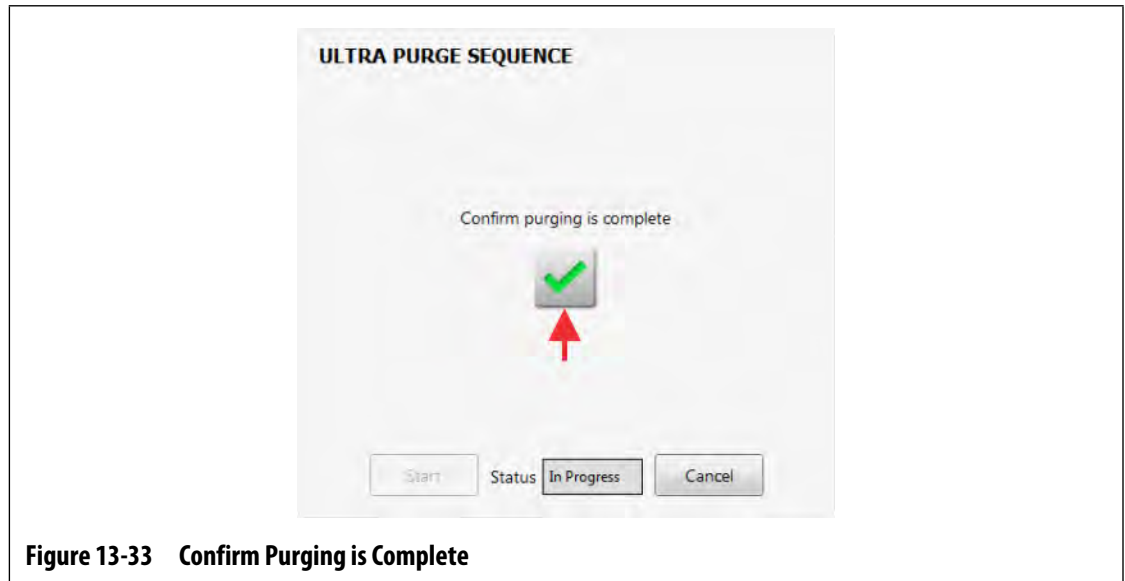

Figure 13-33 Confirm Purging is Complete
20. Touch the green check mark button to confirm that the purging has completed (Figure 13-33).